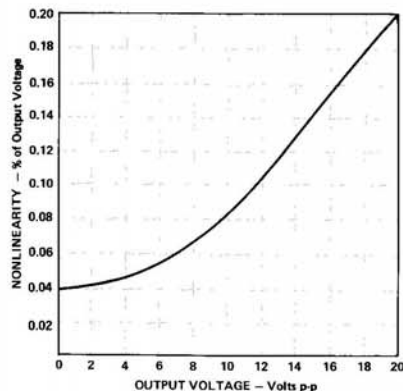

Figure 8. Typical Gain Nonlinearity vs. Output Voltage
**Gain Nonlinearity:** Linearity error is defined as the deviation of the output voltage from the best straight line and is specified as a % of peak-to-peak output voltage span; e.g., nonlinearity of models 290A and 292A operating at an output span of 10V pk-pk ( $\pm 5V$ ) is  $\pm 0.1\%$  or  $\pm 10mV$ . Figure 8 illustrates gain nonlinearity for any output span to 20V pk-pk ( $\pm 10V$ ).